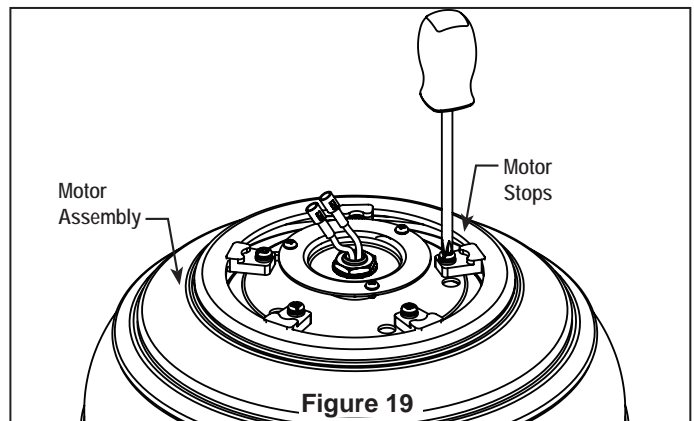

Figure 19
2. Remove and discard the motor stops from the motor assembly by removing the screws. (Figure 19)